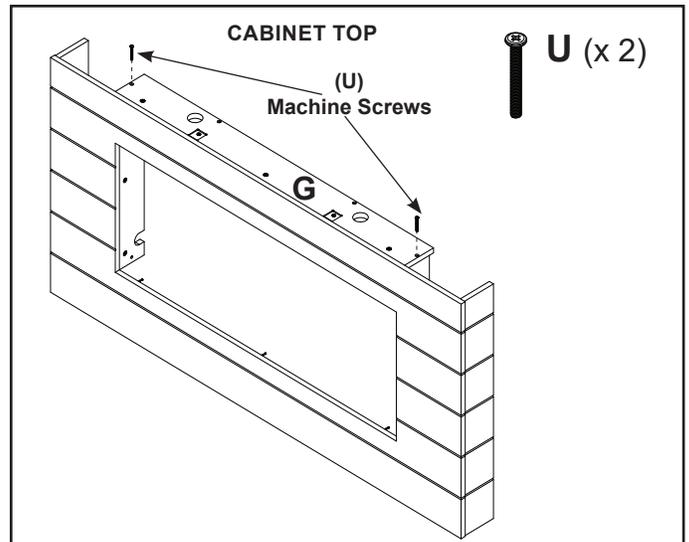

Figure 18
- Secure part "G" to parts "E" and "F" using M6 x 45 Machine Screws (U). See Figure 18.